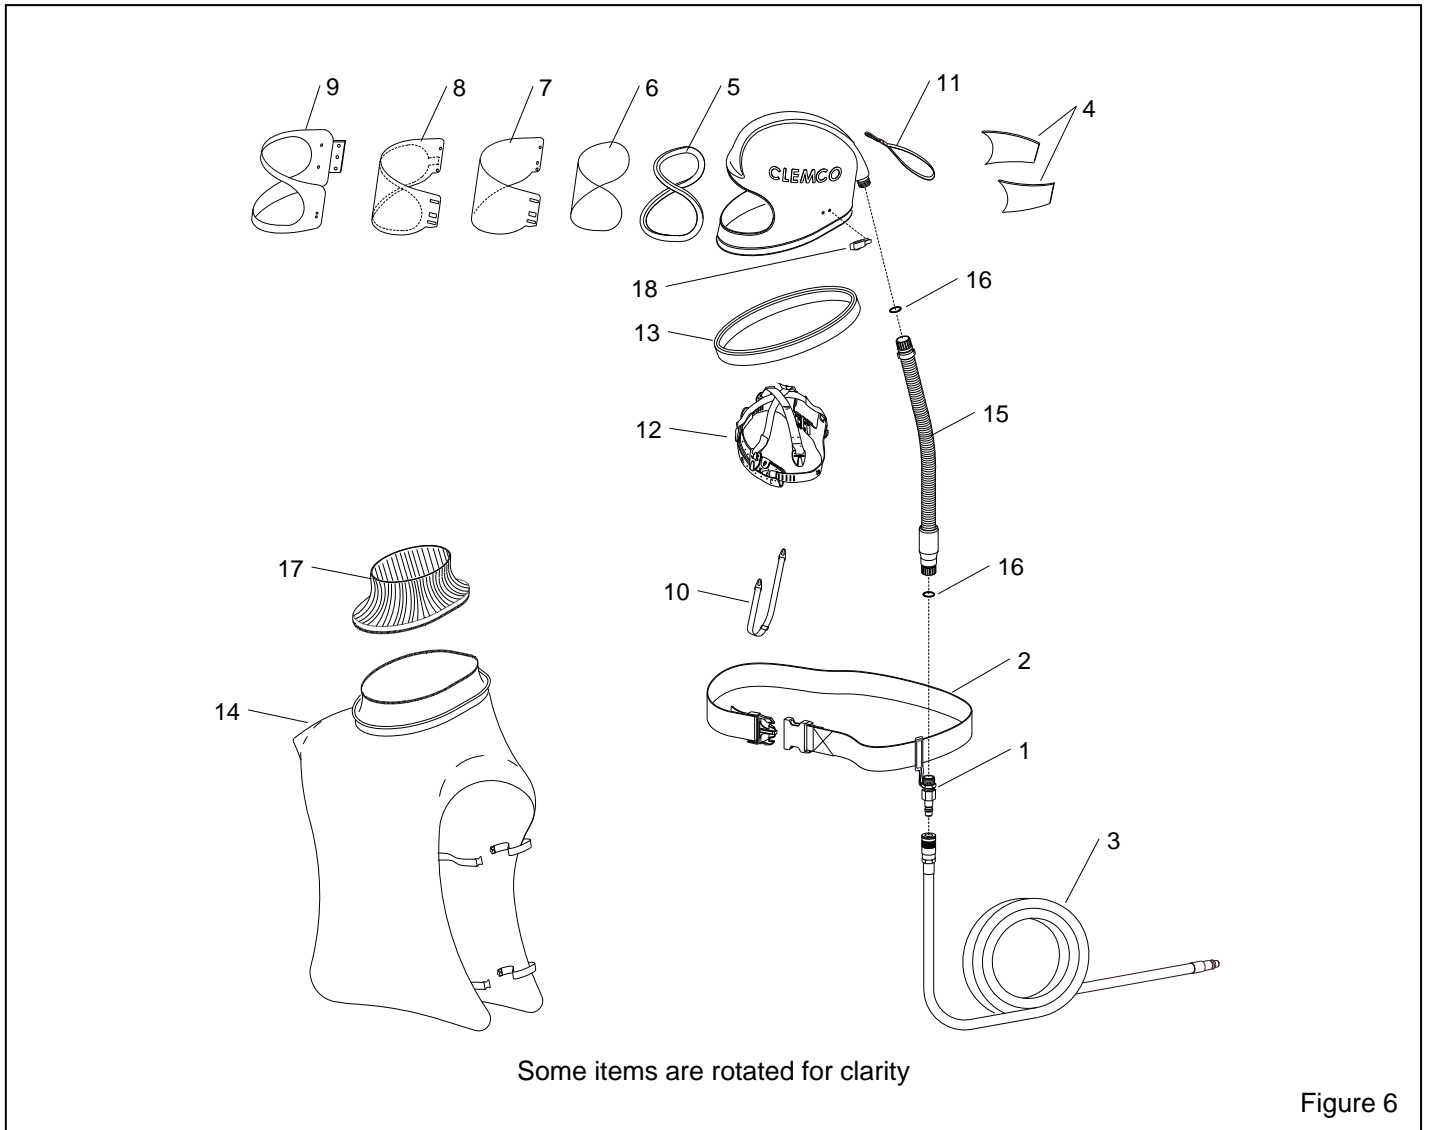

Figure 6
10.2 Respirator Replacement Parts, Figure 6